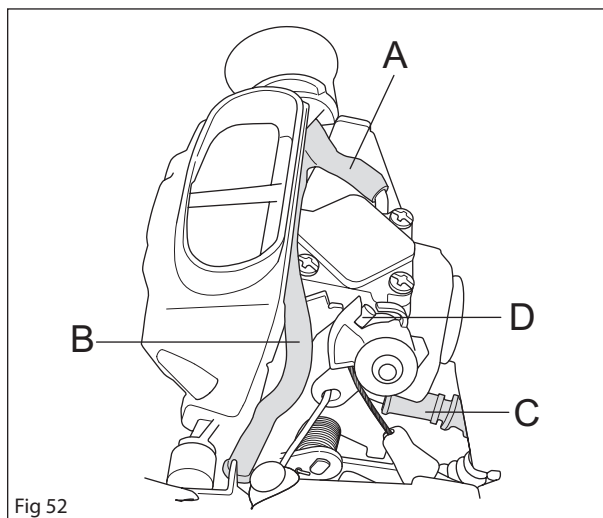

Fig 52
3. Loosen the hoses A to C. See figure 52.
6. Hook on the throttle cable D in the intake bellow. See figure 52.